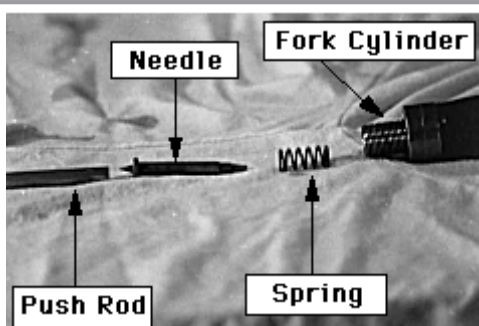

Fig 4
5. While holding your hand over the end of the fork cylinder (this is where the fork cap threads to), turn the fork upside down to drain the oil out. While you are pumping the forks in and out, the push rod, needle, and spring will fall into your hands, **fig 4** (some Showa forks do not have a spring).
44. Install the return spring, needle (long taper faces down), and push rod into the rod pipe, **fig 4**.